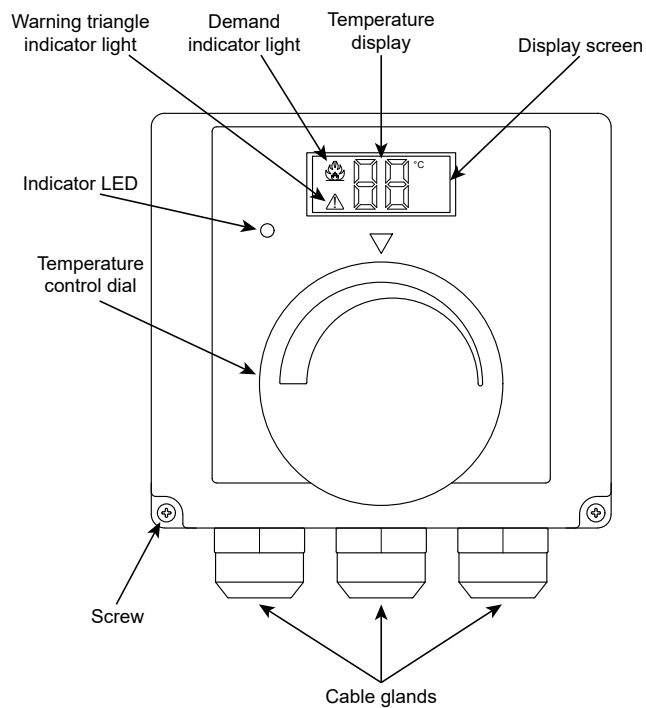

Figure A-1: Digital Dual Thermostat - Front View
You will be able to tell if the Fail Safe function has operated, as the warning triangle in the bottom left hand corner of the display screen will be illuminated and the indicator LED will be illuminated red (see Figure A-1).
1. Allow the temperature of the contents of the cylinder to drop below 65°C. This temperature is indicated on the thermostat display, refer to Figure A-1.
If this function operates, the warning triangle in the bottom left hand corner of the display screen will be illuminated and the indicator LED will be flashing red (see Figure A-1).
2. Remove the two screws securing the wiring cover to the back of the thermostat (see Figure A-1) and carefully remove the wiring cover.
When the temperature of the contents of the hot water cylinder is below the target temperature set by the thermostat, a small flame icon will appear in the top left hand corner of the display screen approximately 10 seconds after the status of the indicator LED changes. See Figure A-1.
If the "Fail Safe" function operates (refer to Section A.1.2), a warning triangle will appear in the bottom left hand corner of the display screen approximately 10 seconds after the status of the indicator LED changes. See Figure A-1.
The thermostat is equipped with an LED to the lower left of the display screen (see Figure A-1).
2. Use the temperature control dial (see Figure A-1) to adjust the domestic hot water target temperature.